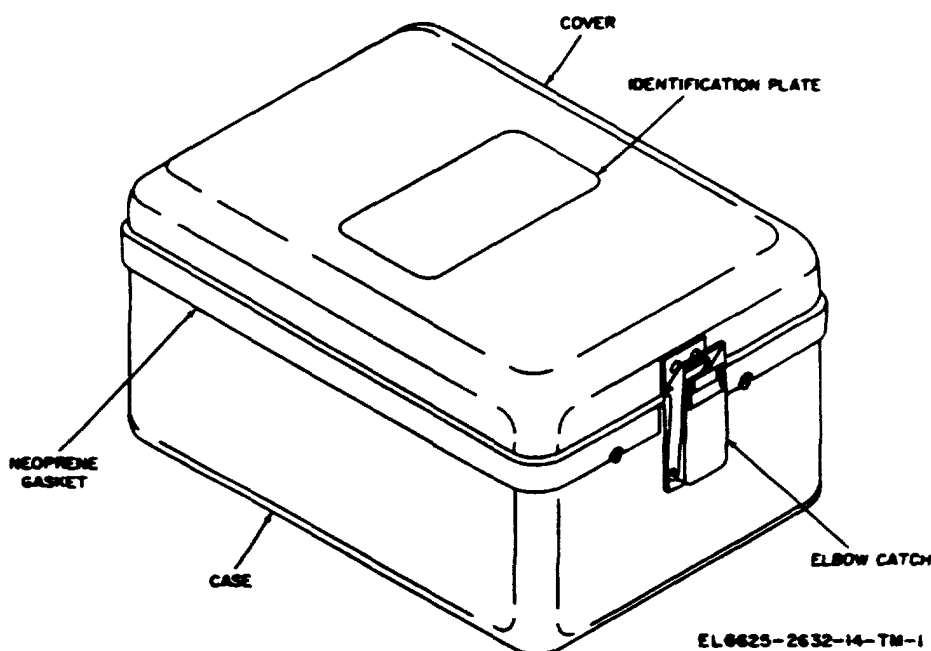

Figure 1-1. Radio Test Set AN/PRM-32 with cover closed.
a. This manual covers operation, organizational, and general support maintenance of Radio Test Set AN/PRM-32 (fig. 1-1). The manual includes instructions for operating, organizational maintenance, testing and